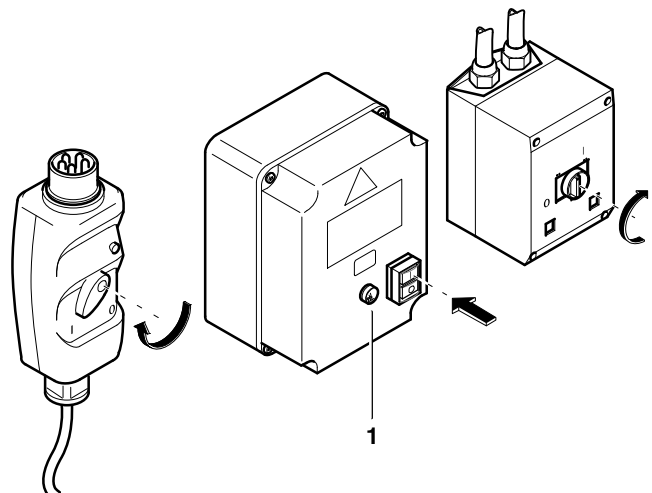

Fig. 9 Starting electric units
- Units with compressor controller monitor automatically the direction of rotation of the motor. In case of wrong direction the red warning lamp E1 (1, Fig. 9) lights up and the power supply for the motor is cut off. Disconnect the unit from the power supply and interchange two of the
- **Three-phase current:** the motor is switched on manually by setting the switch (Fig. 9) to 1.